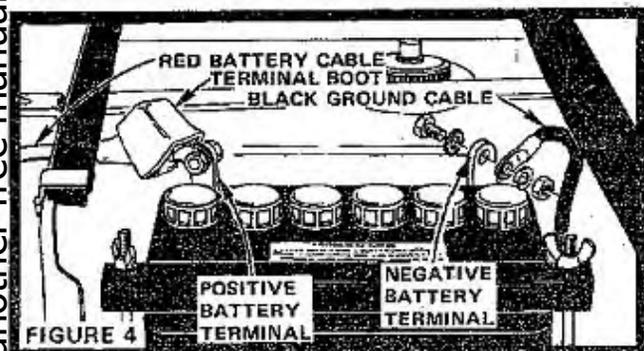

FIGURE 4
- a. Connect RED Battery Cable to Positive (+) Battery Terminal with Hex Bolt, Flat Washer, Lockwasher and Hex Nut (Fig. 4). Tighten securely. Place Boot over Terminal.
- b. Connect BLACK Ground Cable to Negative (-) Battery Terminal with remaining Hex Bolt, Flat Washer, Lockwasher, and Hex Nut (Fig. 4). Tighten securely.